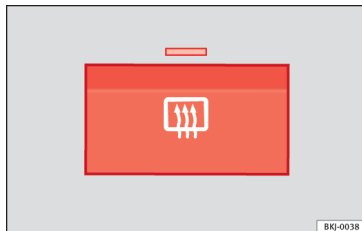

Fig. 152 With the air conditioning controls: heated rear window switch.
- Press the demisting button » Fig. 152